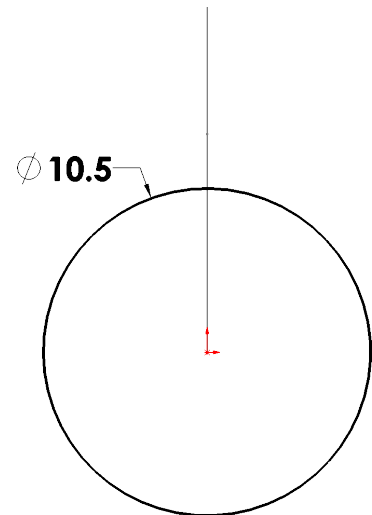

Fig. 6
Step 6. Dimension circle **diameter 10.5**, **Fig. 6**.